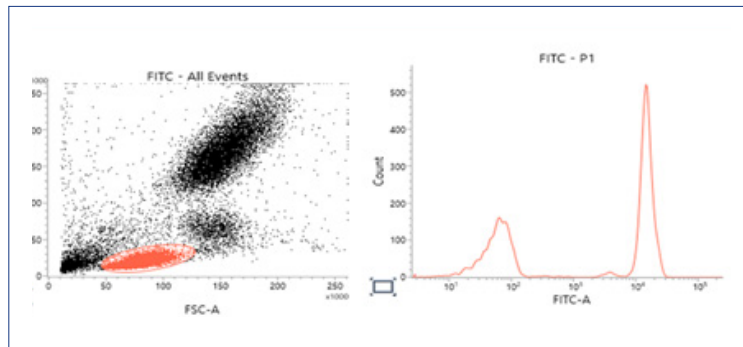

Figure 5: An example of stained cells as a single-color compensation control.
C. Single-stained cells (Figure 5):